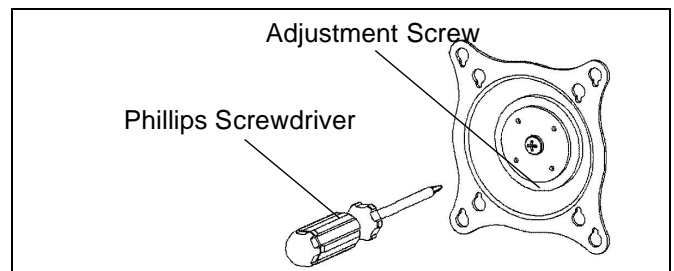

Figure 11
2. Using Phillips screwdriver, slightly loosen or tighten the adjustment screw as necessary (See Figure 11).